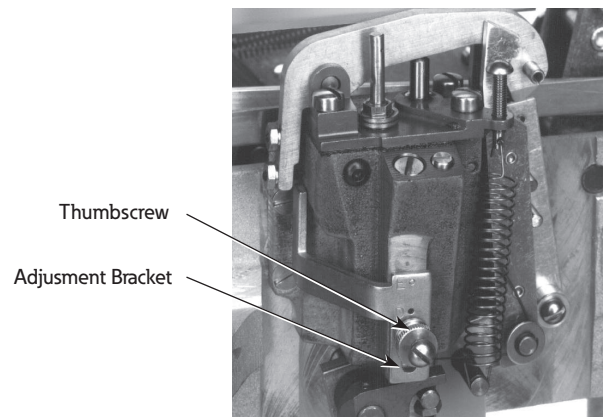

Figure 10. Setting the time-delay characteristics
1. Loosen the thumbscrew (Figure 10).